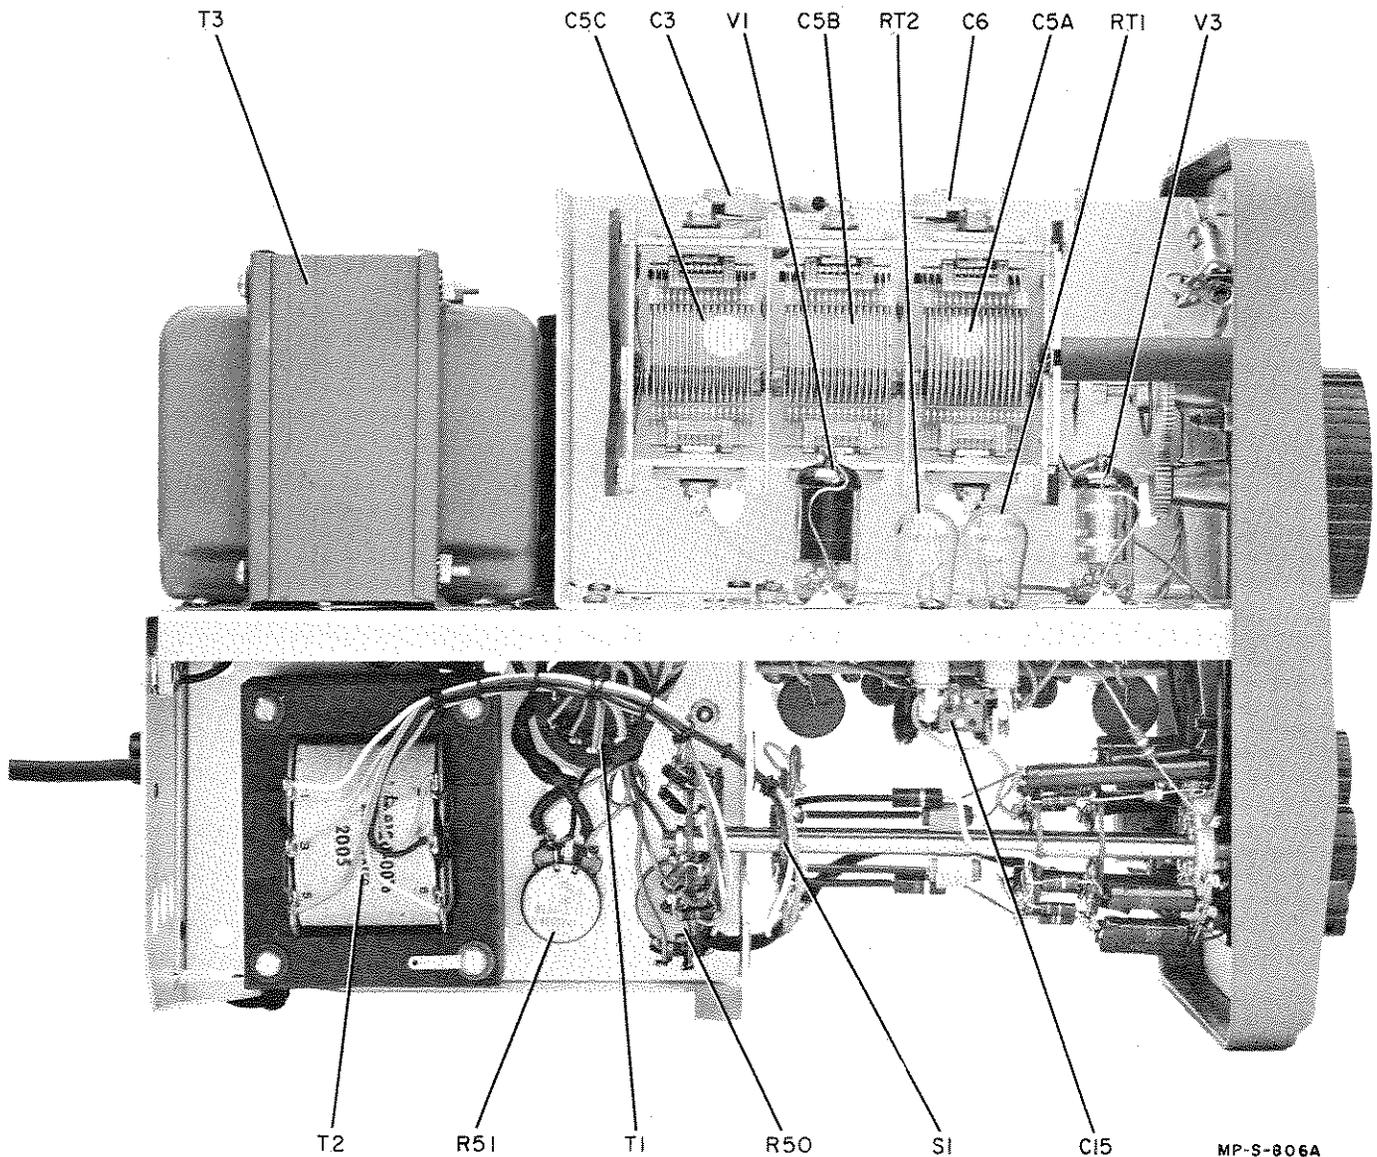

Figure 5-1. Left Side View Model 200CD
c. Using compressed air, gently blow any accumulated dust out of the tuning capacitor plates (C5). See figure 5-1.
5-19. The amplitude stabilization lamps operate well below their rating and should have a long life, unless they are damaged by severe mechanical vibration. When RT1 or RT2 (see figure 5-1) are replaced, reset output voltage (paragraph 5-38).
5-21. The tuning capacitor, C5 A, B, C (shown in figure 5-1), should not be loosened unless absolutely necessary, since doing so may cause misalignment of the tuning capacitor shaft with the shaft extension to the gears. If C5 A, B, C has been removed or loosened for any reason, it should be readjusted mechanically before any electrical adjustment is attempted. In some cases, due to slippage, the tuning capacitor will not mesh far enough to allow perfect calibration at the extreme low end of the dial. When correctly set, the edge of the insulation protruding from the rotor plate spacer on C5 should line up with the top-most stator spacer when the dial is set fully clockwise.